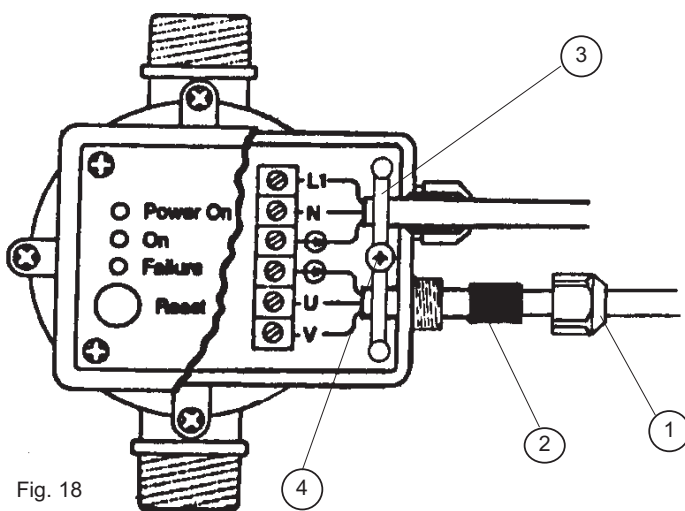

Fig. 18
The cable gland assembly (Fig. 18 items 1 & 2) provides the necessary protection against ingress of solid objects and moisture.
The cable retention system is provided by the cable strap assembly (Fig.18 items 3 & 4) located inside the control module terminal box.
3. Disassemble cable gland and strap assemblies and insert cable into position as shown (Fig. 18) ensuring rubber collar (item 2) is placed over cable before the clamp nut (item 1) is tightened.